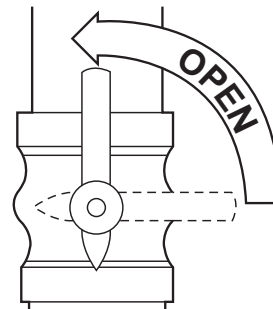

Fig. 11 – Open Valve
10. Open the external manual gas valve, see Fig. 11.